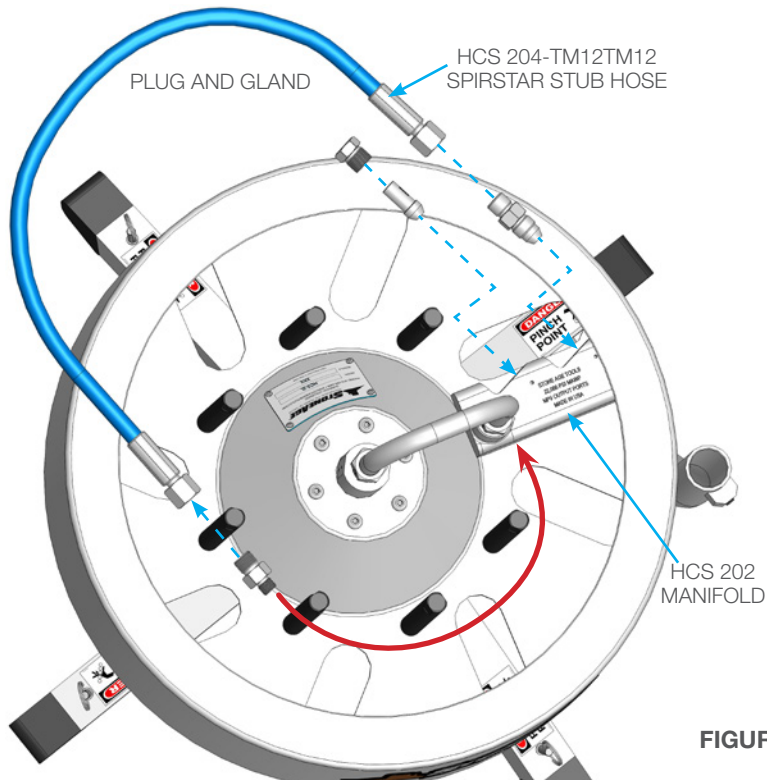
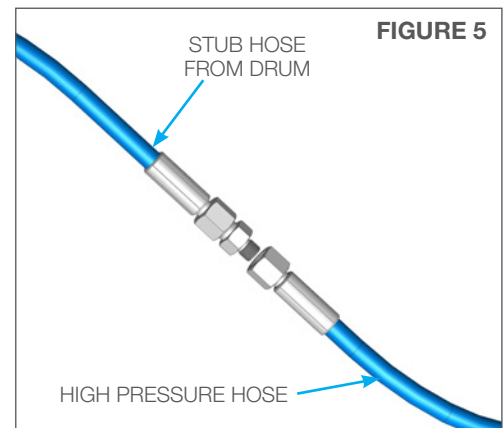

FIGURE 4
FIGURE 5
1. Lightly apply Blue Goop® Swagelok® Brand Anti-seize or an equivalent to all Adapter threads. Install one pair of hose adapters into the HCS 202 Manifold. Then loosely thread the female stub hose ends onto the adapters on the manifold. Thread the other pair of hose adapter onto the opposite ends of the stub hoses. Thread the female stub hose ends onto the adapters that are installed in the manifold. **(Figure 4)**
2. Thread the high pressure hoses onto the ends of the stub hoses **(Figure 5)** and continue to wrap the remainder around the rods, in the direction of the red arrow. **(Figure 4)**